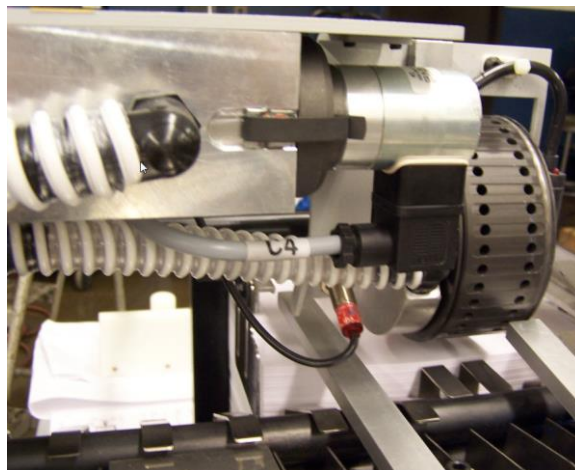

Figure 44
4. Without the guard covering the sucker wheel assembly, loosen two spring clamps, one on each side of the solenoid. The solenoid is the silver cylindrical part with the C4 mounted into a right angle black connector. The black spring clamps hold the solenoid to the manifold block. See figure 44.